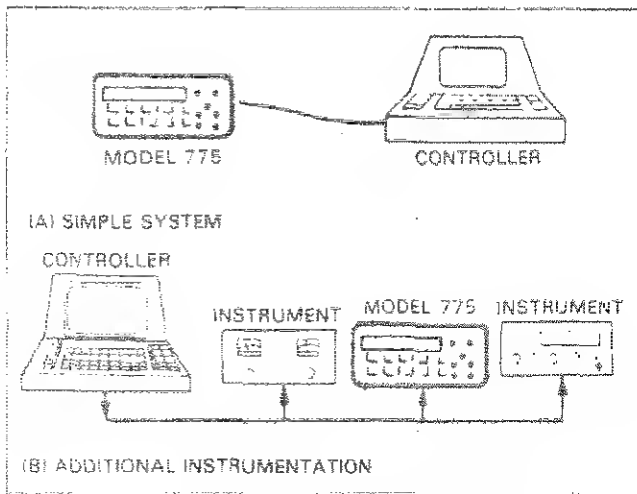

Figure 3-4. System Types
Figure 3-4 shows two typical system configurations. Figure 3-4(A) shows the simplest possible controlled system. The controller is used to send commands to the instrument, which sends data back to the controller.
The system becomes more complex in Figure 3-4(B), where additional instrumentation is added. Depending on programming, all data may be routed through the controller, or it may be transmitted directly from one instrument to another.